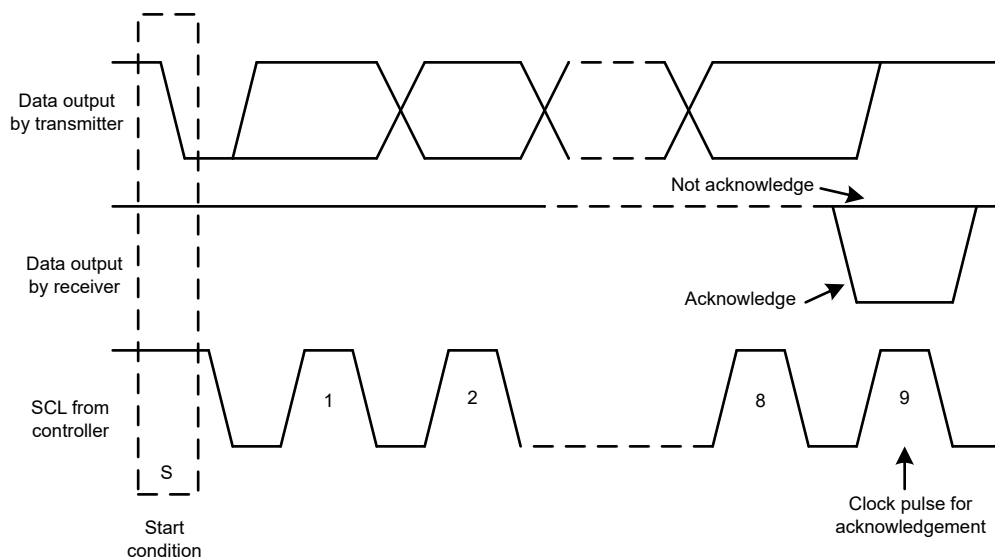
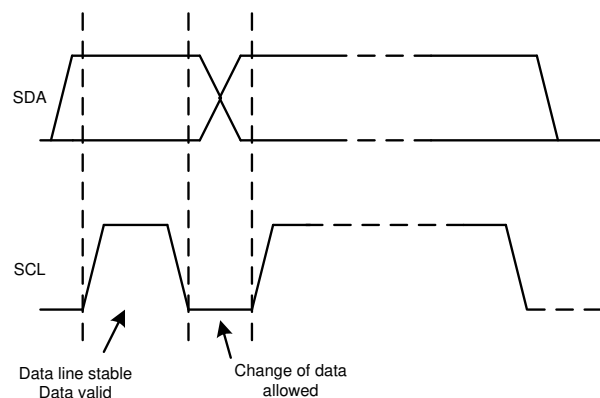

图 7-11. Acknowledge and Not Acknowledge on the I2C Bus
图 7-13. Bit Transfer on the I2C Bus
Other than specific timing signals, the I2C interface works with serial bytes. At the end of each byte, a ninth clock cycle generates and detects an acknowledge signal. An acknowledge is when the SDA line is pulled low during the high period of the ninth clock cycle. 图 7-11 depicts a not-acknowledge, when the SDA line is left high during the high period of the ninth clock cycle.
2. The controller then generates the SCL pulses, and transmits the 7-bit address and the read/write direction bit ( $R/\overline{W}$ ) on the SDA line. During all transmissions, the controller makes sure that data are valid. 图 7-13 shows that a valid data condition requires the SDA line to be stable during the entire high period of the clock pulse. All devices recognize the address sent by the controller and compare the address to the respective internal fixed address. Only the target device with a matching address generates an acknowledge by pulling the SDA line low during the entire high period of the 9th SCL cycle (see also 图 7-11). When the controller detects this acknowledge, the communication link with a target has been established.